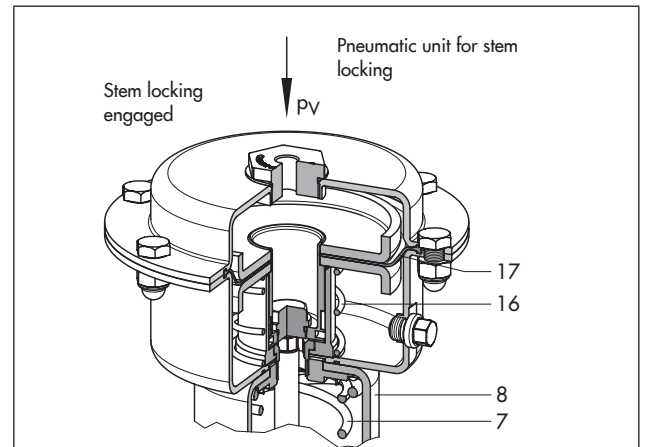
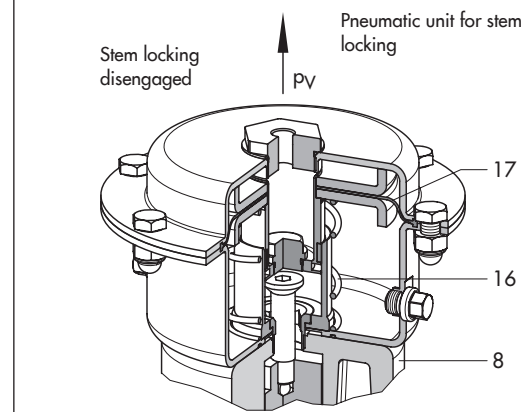

Fig. 3.1: Pneumatic stem locking: Type 2371-10/-11
Fig. 3.2: Pneumatic stem locking: Type 2371-10/-11
Pneumatic stem locking (see Fig. 3.1 and Fig. 3.2)
To switch the valve back to its control function, remove the pressure $p_V (= 1 \text{ bar})$. The spring (16) pulls the actuating unit back, allowing the plug stem to move again for the control task (see Fig. 3.2).
To switch the valve back to its control function, remove the pressure $p_V (= 6 \text{ bar})$. The spring (16) pulls the actuating unit back, allowing the plug stem to move again for the control task (see Fig. 3.2).